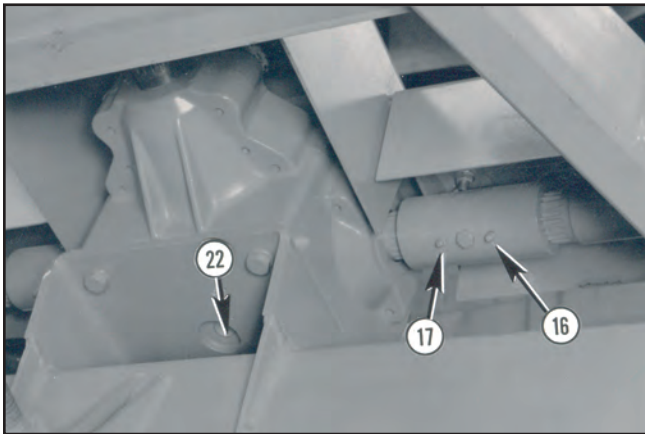

FIGURE 66
The drain plug is at reference item (22) in Figure 66 on page 25.